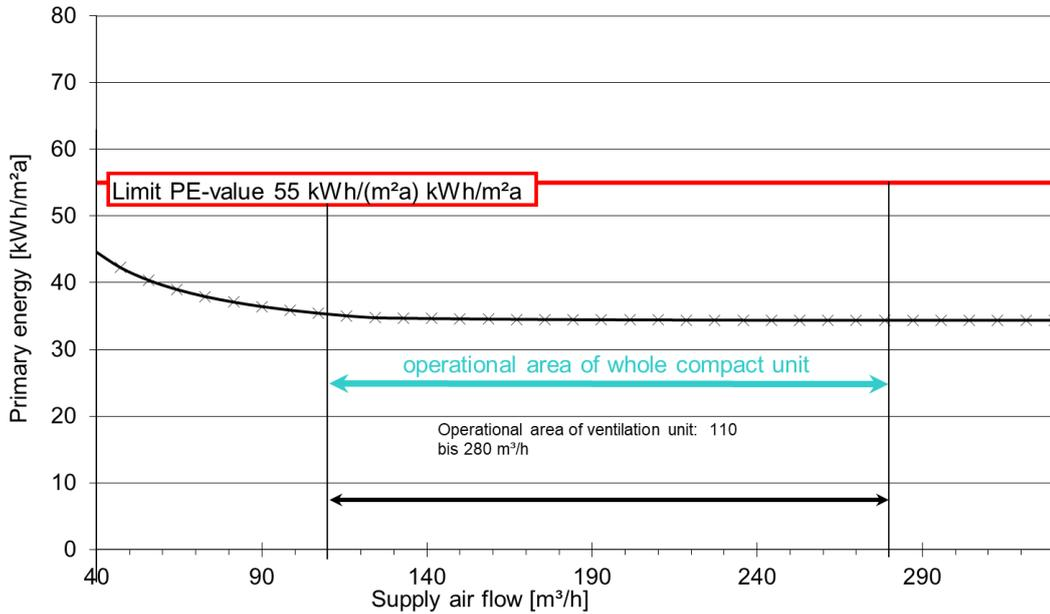

Figure 5: Operational range of recoCOMPACT 7kW (without SHX)
**recoCOMPACT 7kW:** SPF (without SHX) = 2.1, PE-value (without SHX)= 36.1 kWh/m2a. (Figure 5)